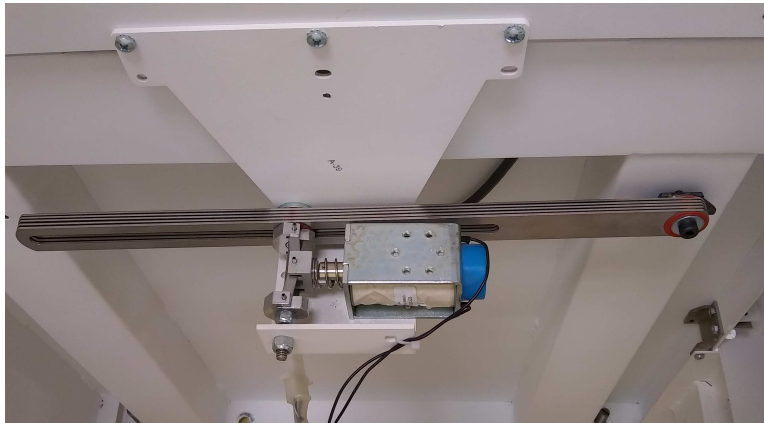

Figure 6
3. Remove the access panel on that side to expose the lock assembly (Figure 6).